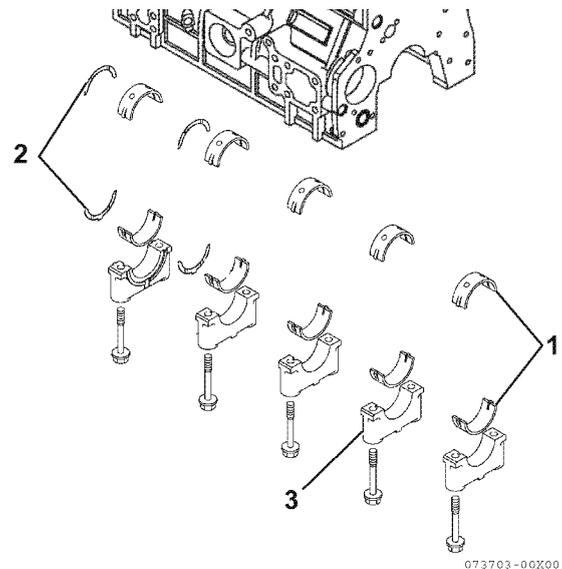

Figure 6-97
2. Reinstall new bearing inserts (1, **Figure 6-97**) and thrust bearing (2, **Figure 6-97**) in the cylinder block and main bearing caps. Apply a liberal coat of clean engine oil to the bearings and crankshaft journals.
4. Reinstall the main bearing caps (3, **Figure 6-97**).